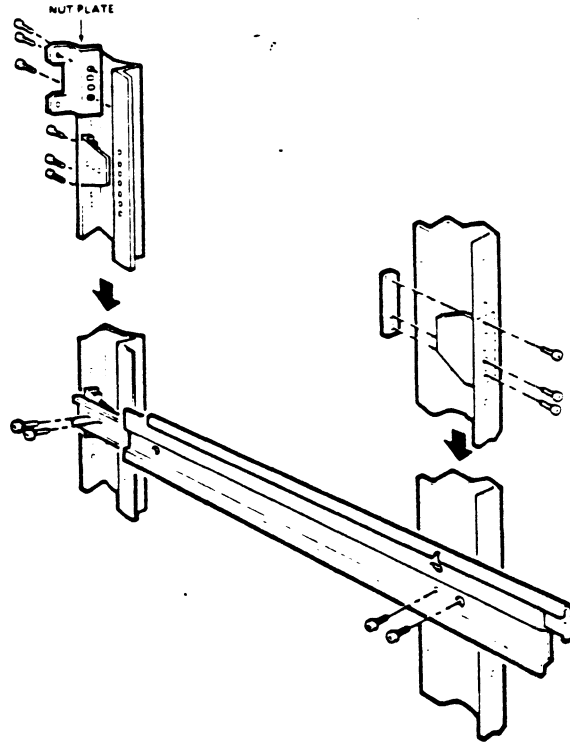

FIGURE 2-3 MOUNTING CHASSIS SLIDE AND RESTRAINT BRACKET
2. Mount the chassis slide bracket by aligning the rack frame holes with the slide bracket. Secure the bracket to the frame with a nut bracket and three no.10 screws (no star washers). Tighten the screws. (See Figure 2-3.)